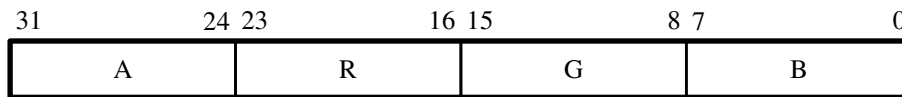

Figure 13. 32-bit RGBA Color Space.
- 32-bit RGBA — This format contains alpha values as well as RGB and uses 8 bits of each color as shown in Figure 13. This mode is defined as 8 bits per color and four color planes.